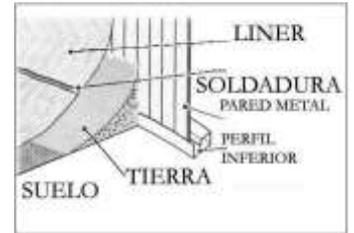

fig. 24
VERY IMPORTANT: Use clean sand (no stones or other objects) to cover the perimeter around the inside of the pool, creating a triangular wedge (20 cm height, 20 cm base). This way we will avoid that the water pressure damages the liner, at the same time as we avoid that the liner slides under the steel wall, helping a correct distribution of the forces. It is very important not to use thin grain sand, or beach sand, fig. 24. Not putting this sand wedge cancels the guarantee.
- e) Remove the clamps while installing the protective profile (PL), fig. 24, over the liner and around the perimeter of the pool.